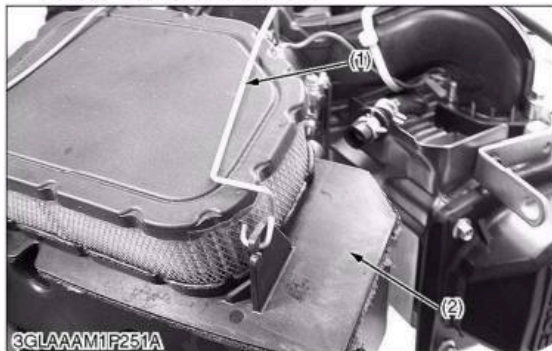

Figure 10-73. Installing Air Cleaner Element.
1. Install the air cleaner element (with precleaner if equipped), onto the air cleaner base. Secure with the latch. See Figure 10-73.